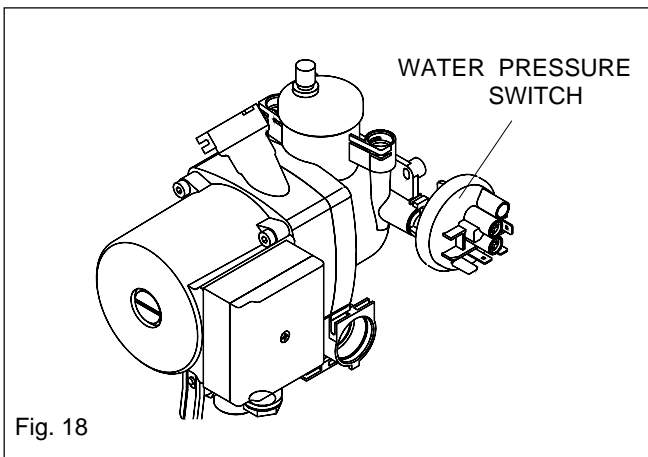

Fig. 18
6.9 WATER PRESSURE SWITCH fig. 18